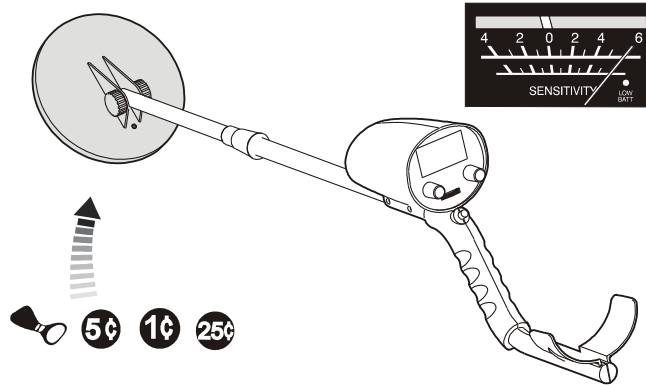

Figure.12
- Let other nonferrous metals approach the search coil, the meter pointer will deflect to the right, and the sound will turn louder. (Figure.12)